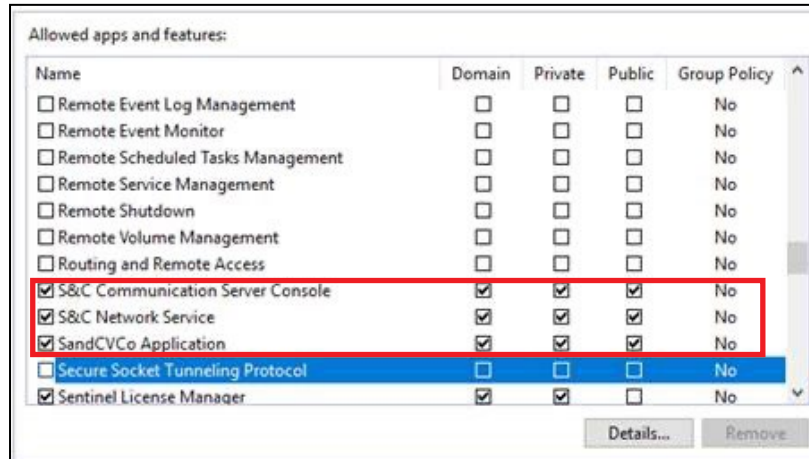
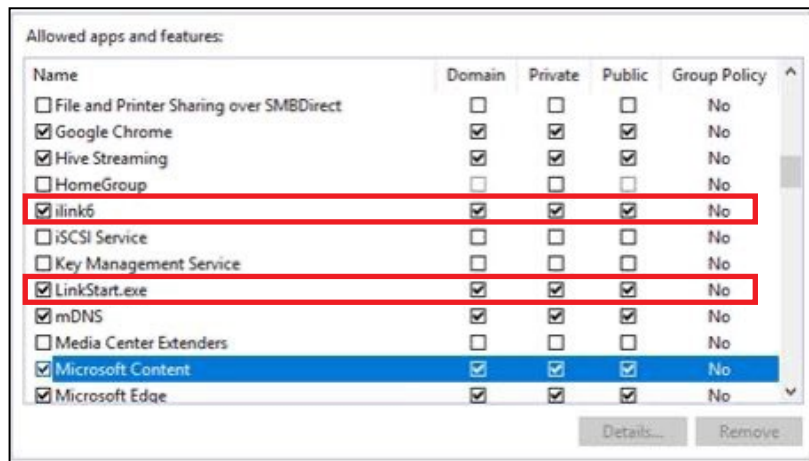

Figure 45. The Allow apps to communicate through Windows Defender Firewall dialog box.
Figure 46. The Allow apps to communicate through Windows Defender Firewall dialog box continued.
STEP 3. Scroll through the “Allowed apps and features:” list and check the applications in the public profile. See Figure 45 on page 113 and Figure 46 on page 113. Table 16 lists the applications that must be allowed and their file locations.